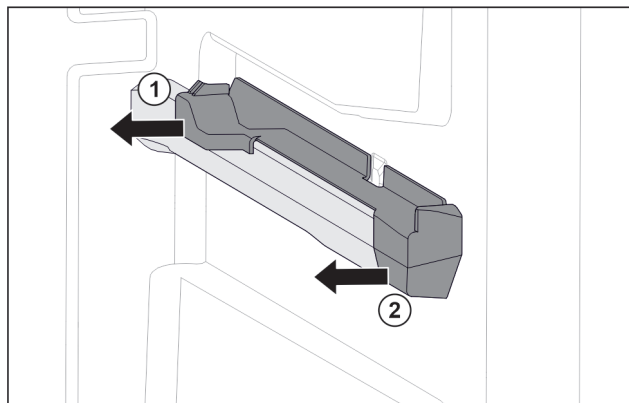

Fig. 131 Attachment on the right moulded rib
- Pull off attachment at the back sideways. Fig. 131 (1)
- Pull off attachment at the front sideways. Fig. 131 (2)